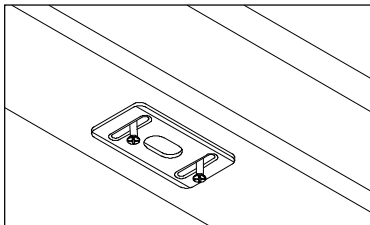

Figure 2e
After the double door is properly aligned, use the astragal bolts to mark and drill 3/8" diameter x 1 3/8" min. deep hole through the head jamb and 5/8" diameter x 1 3/8" min. deep hole through the sill, per Figures 2e, 2f, and 2g. Pre-drill (2) 1/16" pilot holes for the mounting screws for the head jamb. Install the retaining plate in the head jamb using the included hardware and insert the grommet into the 5/8" diameter hole in the sill.